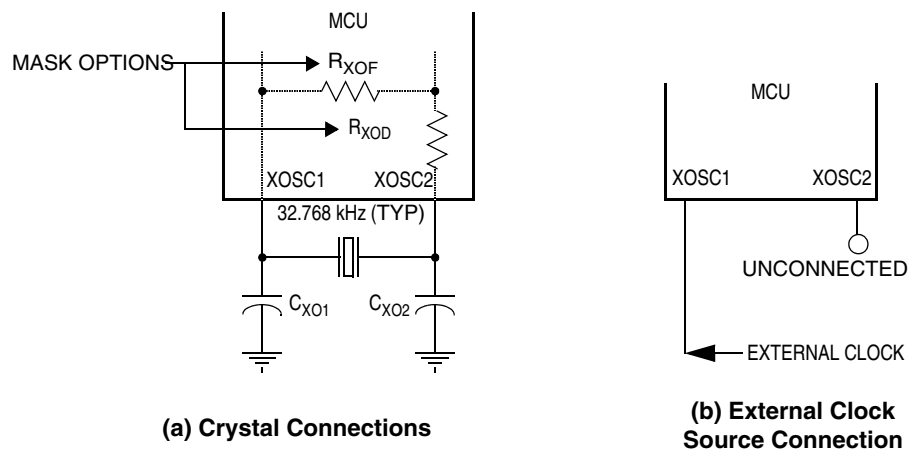

Figure 1-4. Oscillator Connections
- A crystal as shown in Figure 1-4(a)
- An external clock signal as shown in Figure 1-4(b)
The circuit in Figure 1-4(a) shows a typical 2-pin oscillator circuit for an AT-cut, parallel resonant crystal. The crystal manufacturer's recommendations should be followed, as the crystal parameters determine the external component values required to provide maximum stability and reliable startup. The load capacitance values used in the oscillator circuit design should include all stray capacitances. The crystal and components should be mounted as close as possible to the pins for startup stabilization and to minimize output distortion. An internal startup feedback resistor of R_{XOF} between XOSC1 and XOSC2 and a damping resistor of R_{XOD} in series to XOSC2 may be selected as a mask option. Typical R_{XOF} resistor value is 15 M Ω , and R_{XOD} resistor value is 1 M Ω .
An external clock from another CMOS-compatible device can be connected to the XOSC1 input, with the XOSC2 input not connected, as shown in Figure 1-4(b). This configuration is possible regardless of how the oscillator is set up.